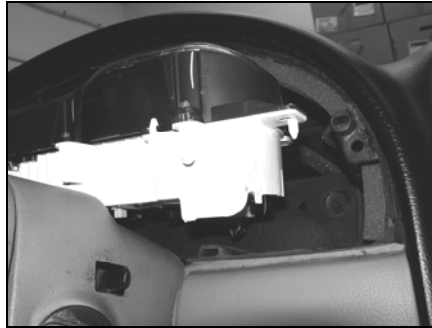

Figure 4
- B. Carefully pull the cluster slightly forward and tilt it back and upwards allowing room to remove the two harness connectors. (See Figure 4)